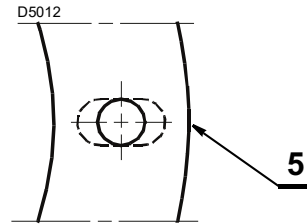

Fig. 10
- if necessary, widen the holes of the insulating gasket 5)(Fig. 10), taking care not to damage it.